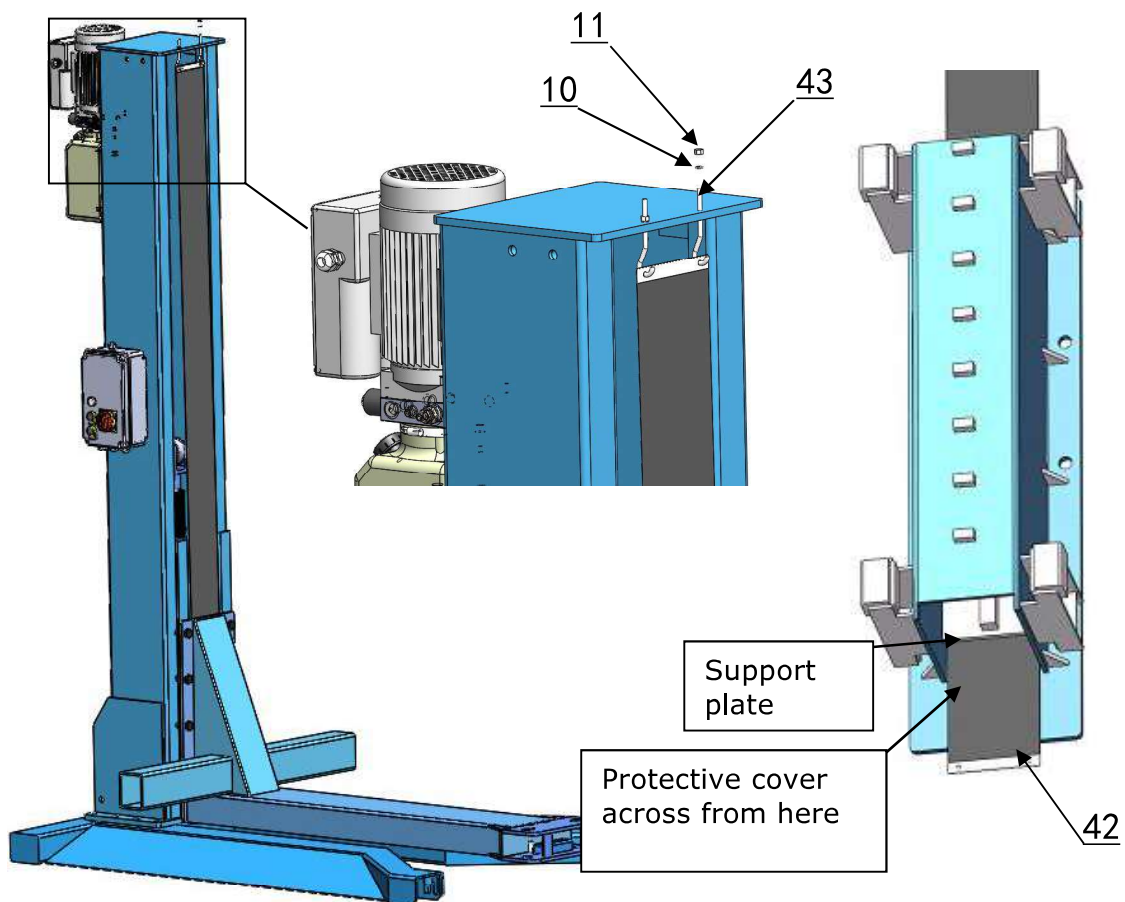

Fig. 24
K. Install protective cover. (see Fig.24)